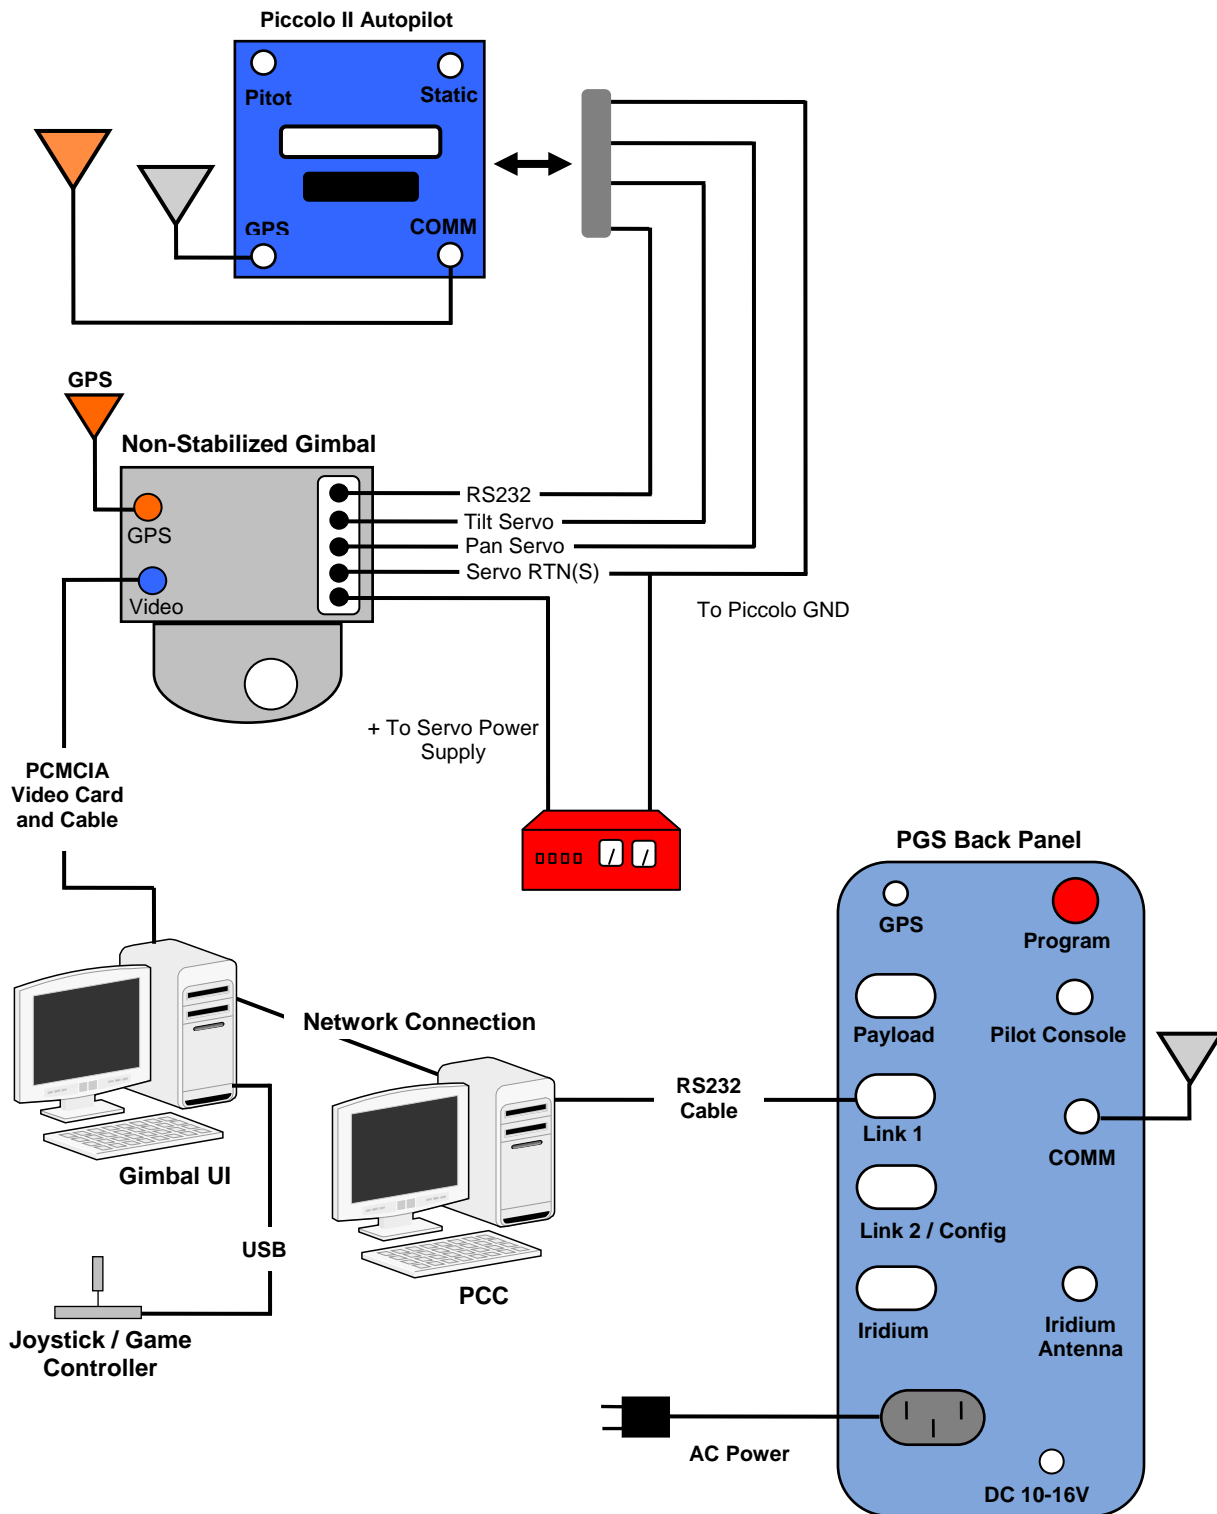

Figure 1 - Gimbal and Piccolo Integration Diagram
2. Set up and connect a gimbal as shown in **Figure 1**. The Piccolo Command Center and the Gimbal UI should be installed on the same PC.